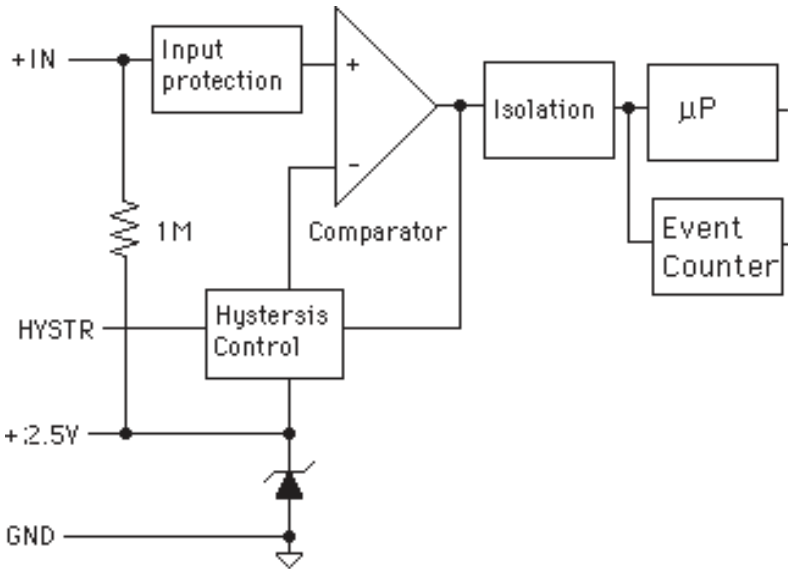

Figure B-5. Accumulator Block Diagram.
The Accumulator models are: D1631, D2631, D1632, D2632, D1641, D2641, D1642 and D2642 are designed for applications that require reading and accumulating pulse type information. They can accumulate the output of pulse type flow meters or keep track of power consumption by interfacing with a power meter. The Accumulator modules combine a frequency or pulse input circuit with an event counter. These modules allow a host computer to read both rate and total count of events. As shown in figure B-5 the input signal is passed through a comparator and the output of the comparator is sent to the microprocessor and to an event counter. Use the Read Data (RD) command to read the instantaneous value or rate of the frequency or pulse input. Use the Read Events (RE) command to read the total of events since the last time the event counter was cleared. Use the Events Clear (EC) command to read the total of events since the last time the event counter was cleared and clear the counter. The event counter will count up to 10 million transitions.